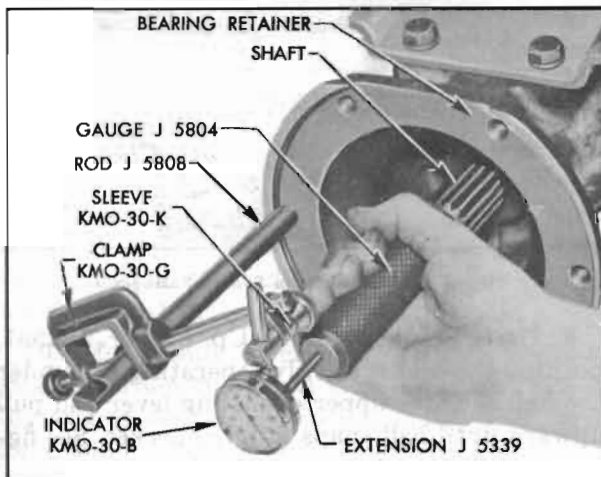

Figure 5-96—Checking Output Shaft End Play
8. Use Clamp KMO-30-G and Sleeve KMO-30-K to mount Dial Indicator KMO-30-B and Extension J 5339 so that the extension bears squarely against the end of Gauge J 5804. See figure 5-96.